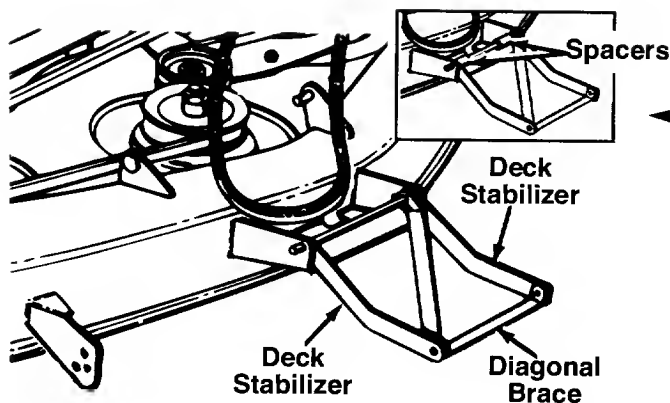

FIGURE 5.
3. The two deck stabilizers and the diagonal brace which are attached to the front of the deck are folded back over the deck for shipping purposes. Unfold them at this time. See figure 5.
**NOTE:** If the hardware for attaching the deck is assembled to your deck, remove the hairpin clips and flat washers from each deck bracket. Remove the spacers from the rod which is through the deck stabilizer by removing the hairpin clips and sliding out the rod. Replace the rod and hairpin clips. See figure 5, inset.